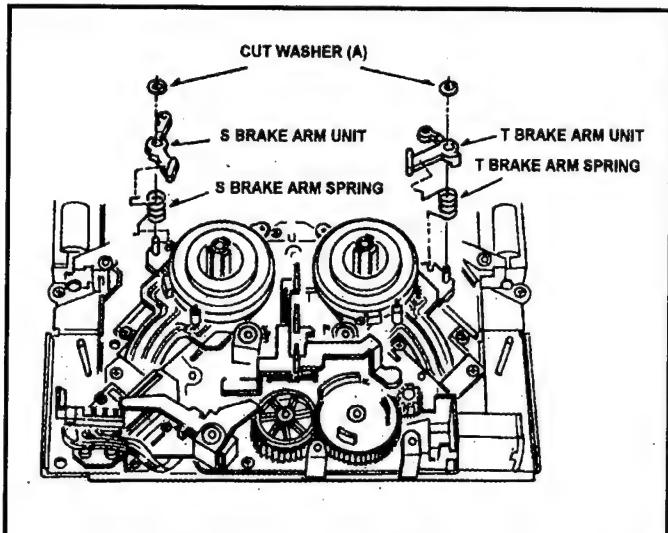

Fig. 4-7-1 Removal of S & T Brake Arm Unit
1. Remove the Mechanical Unit (Refer to item 2-1, Removal of Mechanical Unit).
3. Remove the cut washers (A) and remove the supply and Take Up Brake Arm Unit as shown in Figure 4-7-1.
1. When install the new Brake Arm Unit first, hang on the Brake Arm Spring as shown in Figure 4-7-1.
3. Main Brake Torque confirmation is required (Refer to item 3-3).
4. Confirm that the Tension value on the Playback mode (Refer to items 3-15, 3-16).